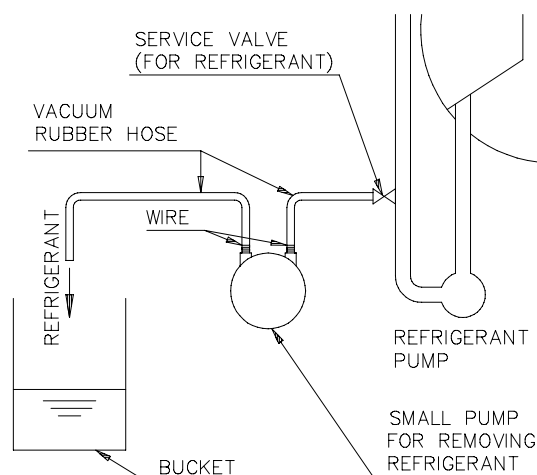

Fig. 7-18. Refrigerant Removing Device
- (1) Make the circuit for removing refrigerant as shown in Fig. 7-18.
- (2) Start small pump for removing refrigerant.
- (3) Slightly open the service valve furnished on refrigerant pipe by using adjustable wrench.
- (4) Fully open the service valve when refrigerant is discharged into the bucket.
- (5) Fully close the service valve when required quantity of the refrigerant is removed.
- (6) Stop the small pump for removing refrigerant.
- (7) Continue the air purging for 30 minutes after completion of this work.
- (8) Disassemble the circuit.
- (9) Confirm that cap of the service valve is closed completely.
- (10) Wash the tools with water.